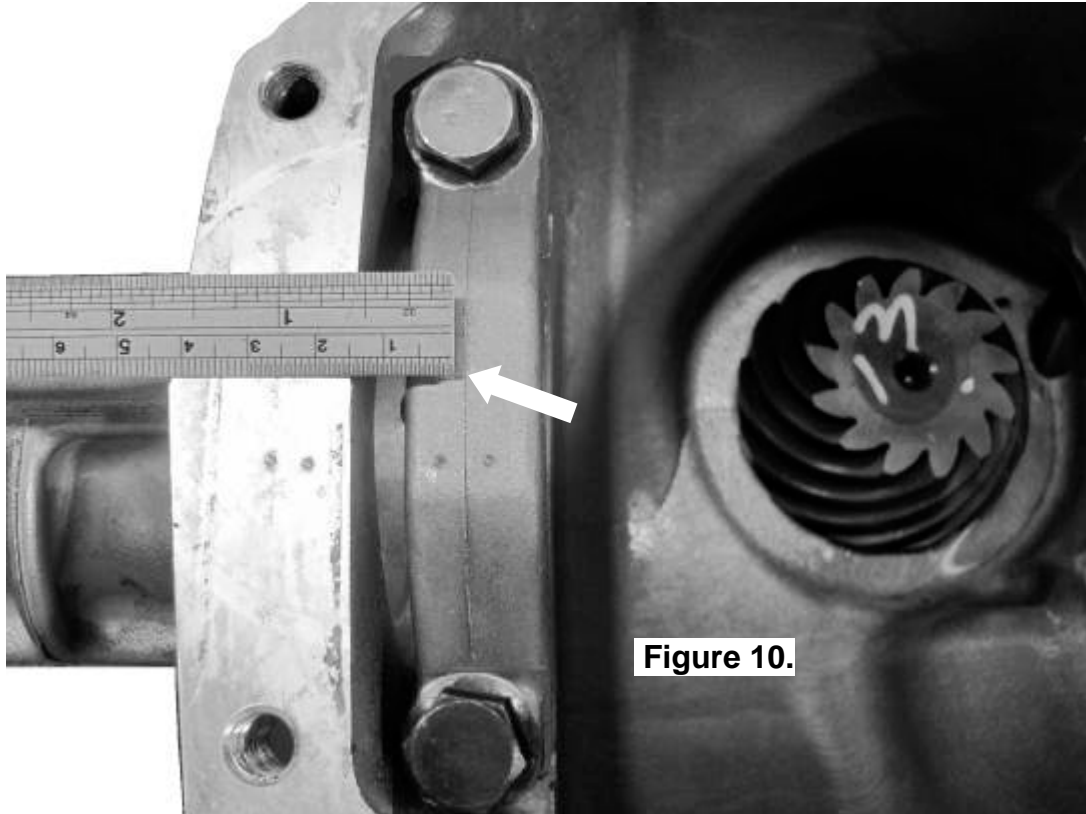

Figure 10.
- ☐ Measure to the bearing cap from exactly the same position on the differential housing that you took the previous measurements from. (Fig. 10.)